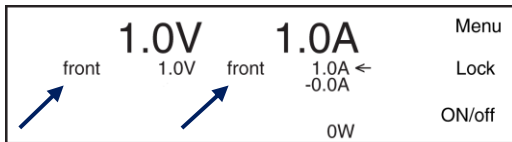

Figure 10.1: At the right side of the display, the texts must be 'Lock' and 'ON/off'.
- If the text is 'Unlock', press the button next to this text for a few seconds to unlock the unit, see Figure 10.1.